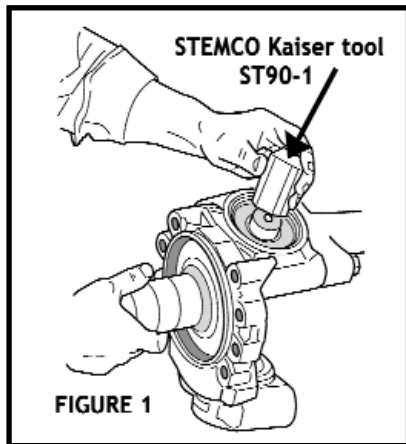

FIGURE 1
- Install kingpin removal tool ST90-1 on top of king pin. (FIG. 1)